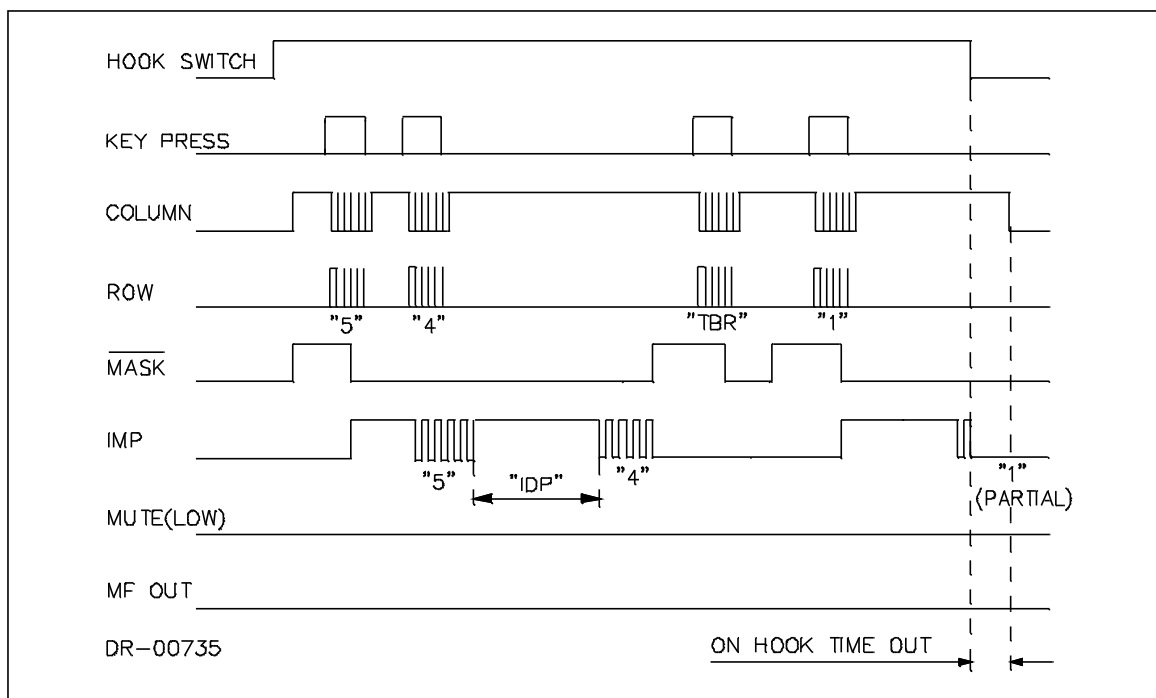

Figure 5: LD Mode Timing Diagram
Off-hook state: When the HSW input goes high, the $\overline{\text{MASK}}$ output immediately goes to the logic '1' level and remains there until dialling starts (see Figure 5). COLUMN outputs also go high until a key is pressed. The oscillator circuit remains inactive until a key is pressed, and is normally off whenever timing functions are not required, hence reducing operating current.
10. Loop Disconnect Dialling (Figures 5 and 6)